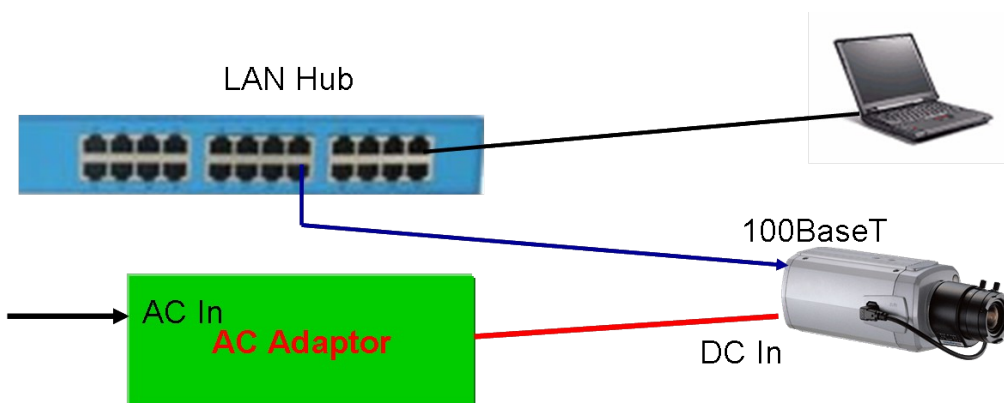

Figure 2-6. Connecting Network camera and PC without using PoE
- 3) If you have standard power connect the network camera and PC as illustrated in Figure 2.6.